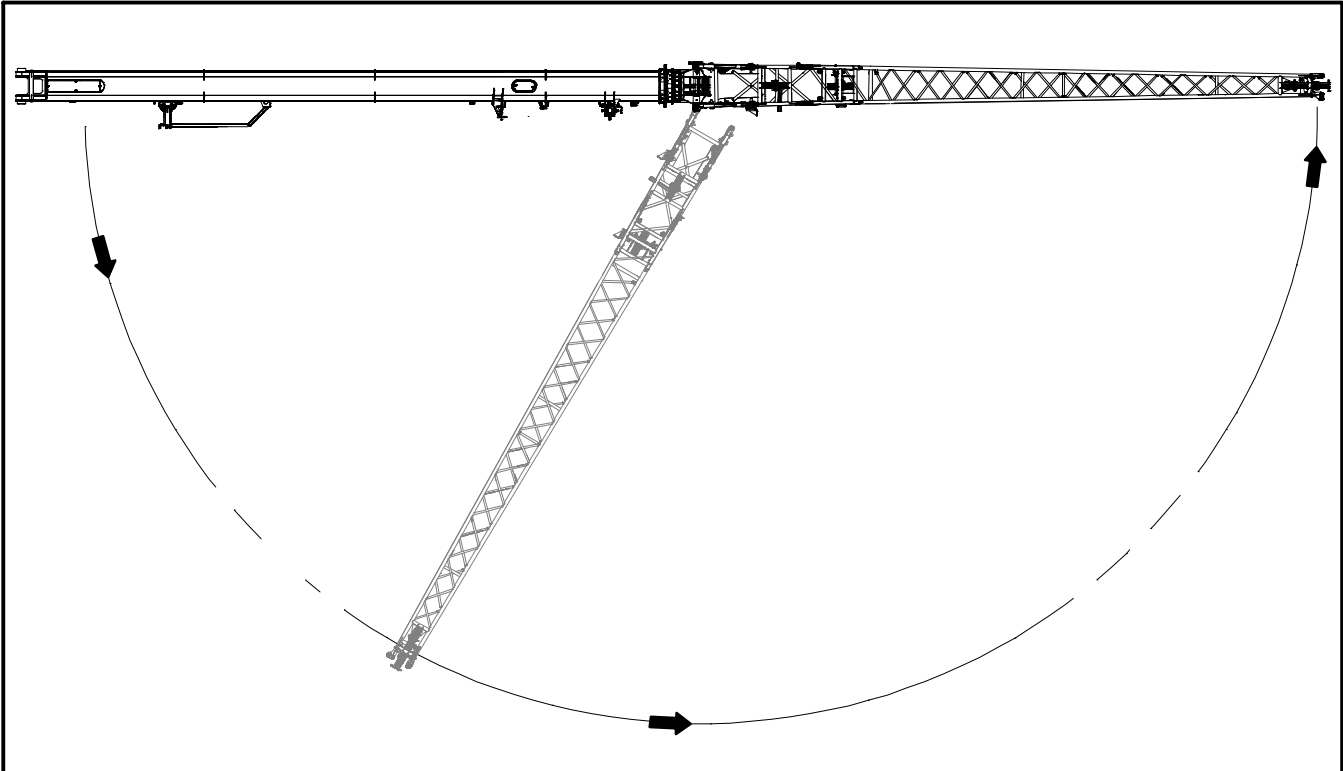

Figure 4–91
8. Pull down the retaining pin (1) to disengage the pin from the bullet lug on the 10 ft (3.05m) fly storage bracket. Refer to Figure 4–89. Rotate and release the retaining pin to lock it in the disengaged position (3).
9. Pull the retaining pin (2) to disengage the pin from the bullet lug (1) on the 25 ft (7.62m) fly storage bracket. Refer to Figure 4–90. Rotate and release the retaining pin to lock it in the disengaged position (3).
11. Slowly boom down to allow the fly to swing out slightly from the storage brackets and then fully retract the boom. Refer to Figure 4–91.
12. Continue to lower the boom to 0° angle to swing the fly base around the boom head until the fly lugs engage with the boom head machinery cross shafts on the left side of the boom. Refer to Figure 4–91.
15. Remove the wire rope guards from the fly base and boom head deflector sheaves. Refer to Figure 4–94. Reeve the winch wire rope over the boom deflector sheave, then on the fly base deflector sheave.